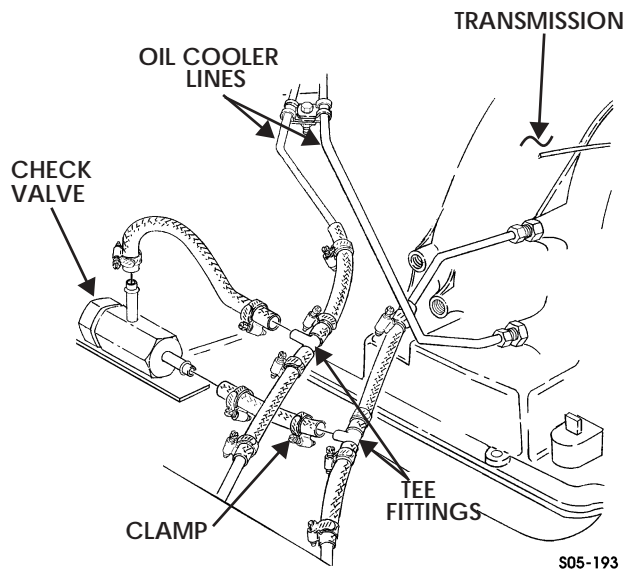

Figure 5-82: Check Valve and Transmission Oil Cooler Lines
6. Install retaining clamps and oil cooler lines on frame rail (Figures 5-82 and 5-83).